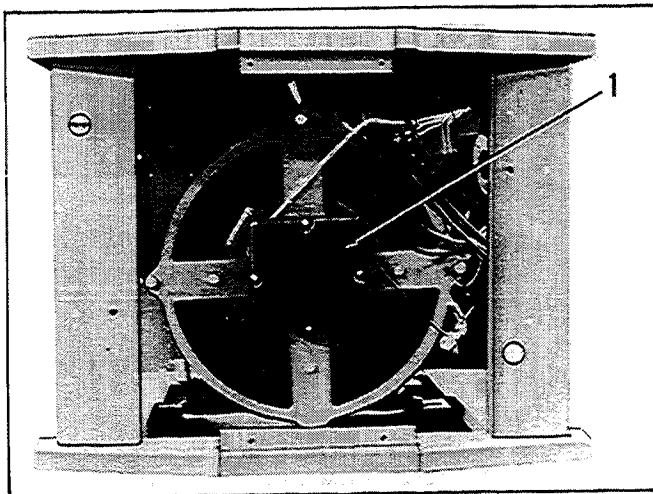

Figure 4-2. Panels Removed
1. Remove junction box panels from generator end of unit (Figure 4-2), and remove photo transistor board cover.